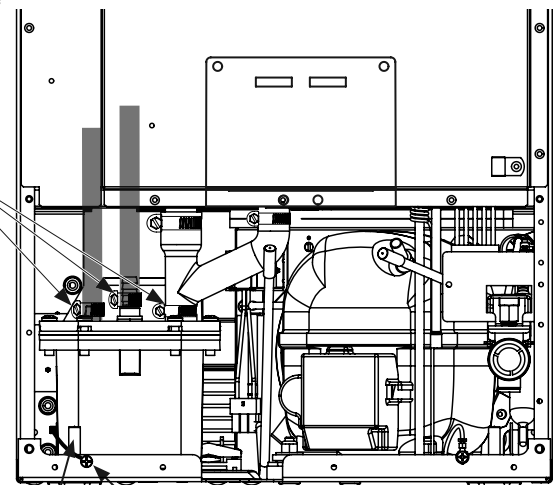
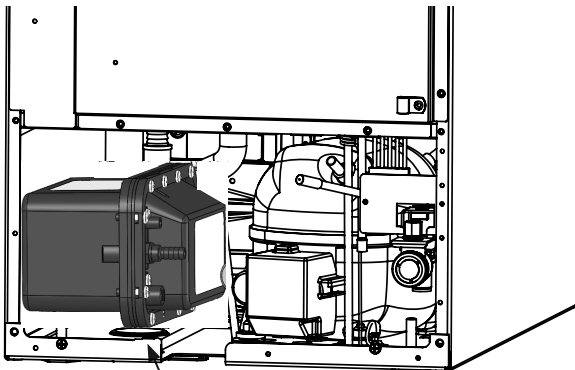

Figure 34
Figure 38
4. Unscrew the 3 hose clamps and remove the 3 hoses from the front of the drain pump. (See Figure 34).
5. Unscrew the leveling leg in the back corner until the end of the threaded portion is flush with the threaded nut insert in the base. (see Figure 34).
6. Rotate the drain pump and remove from the ice machine, (See Figure 38). It may be necessary to disconnect the ground wire connection in the back flange of the cabinet. (See Figure 34).